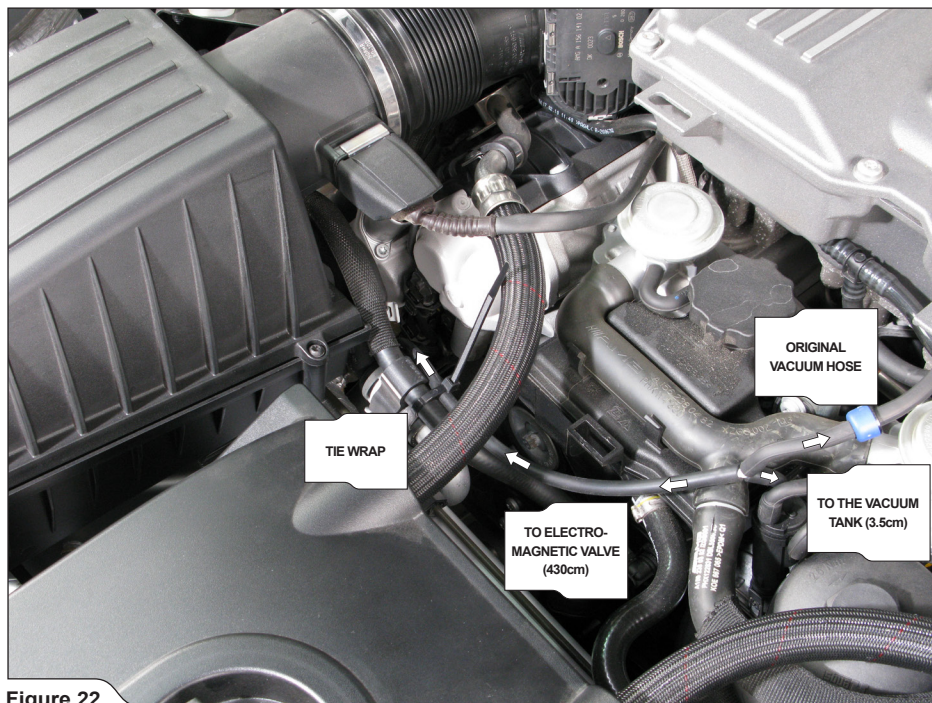

Figure 22
3. **For wireless kit installation:** connect the Akrapovič 430cm rubber hose to a Y piece distributor. Direct and secure the hose, as shown (Figure 22).